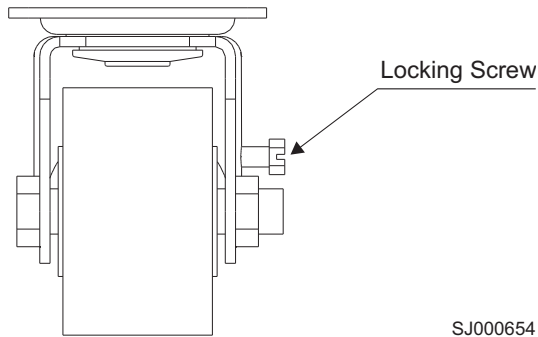

Figure 83. Caster wheel
3. Lock each caster wheel by tightening the screw on the caster. See Figure 83.